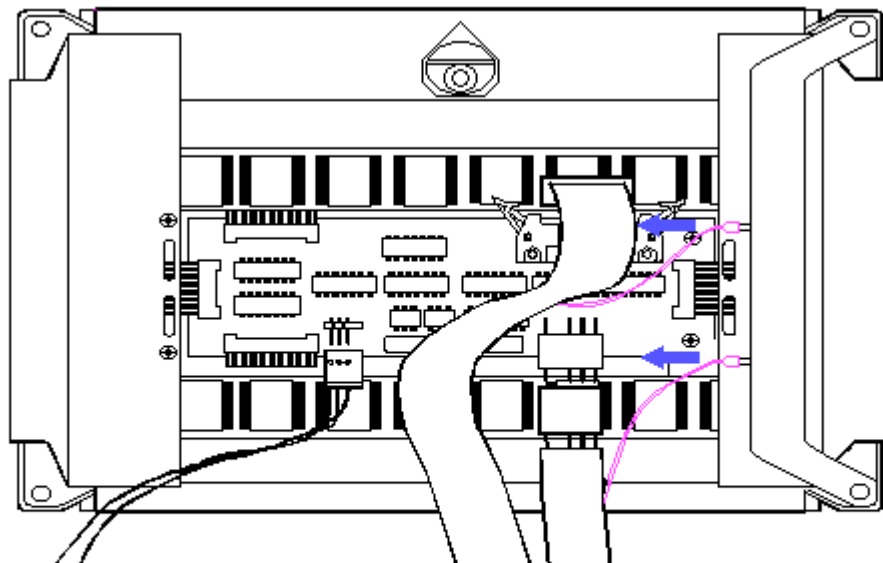

Figure 8-76. Disconnecting the Ground Wires
11. Disconnect the display power cable ground wires from the plasma display (Figure 8-76).